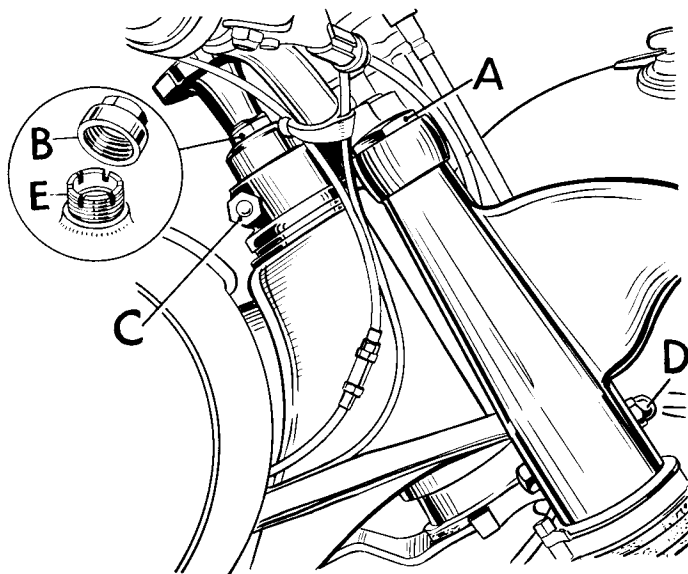

FIG. E.1. *Steering head adjustment.*
To adjust the steering, remove the damper rod then the top cap (B) Fig. E.1 to expose the adjuster sleeve (E).
the fork leg and slacken off the pinch bolt in the bottom fork yoke (D) Fig. E.1, page E.3.